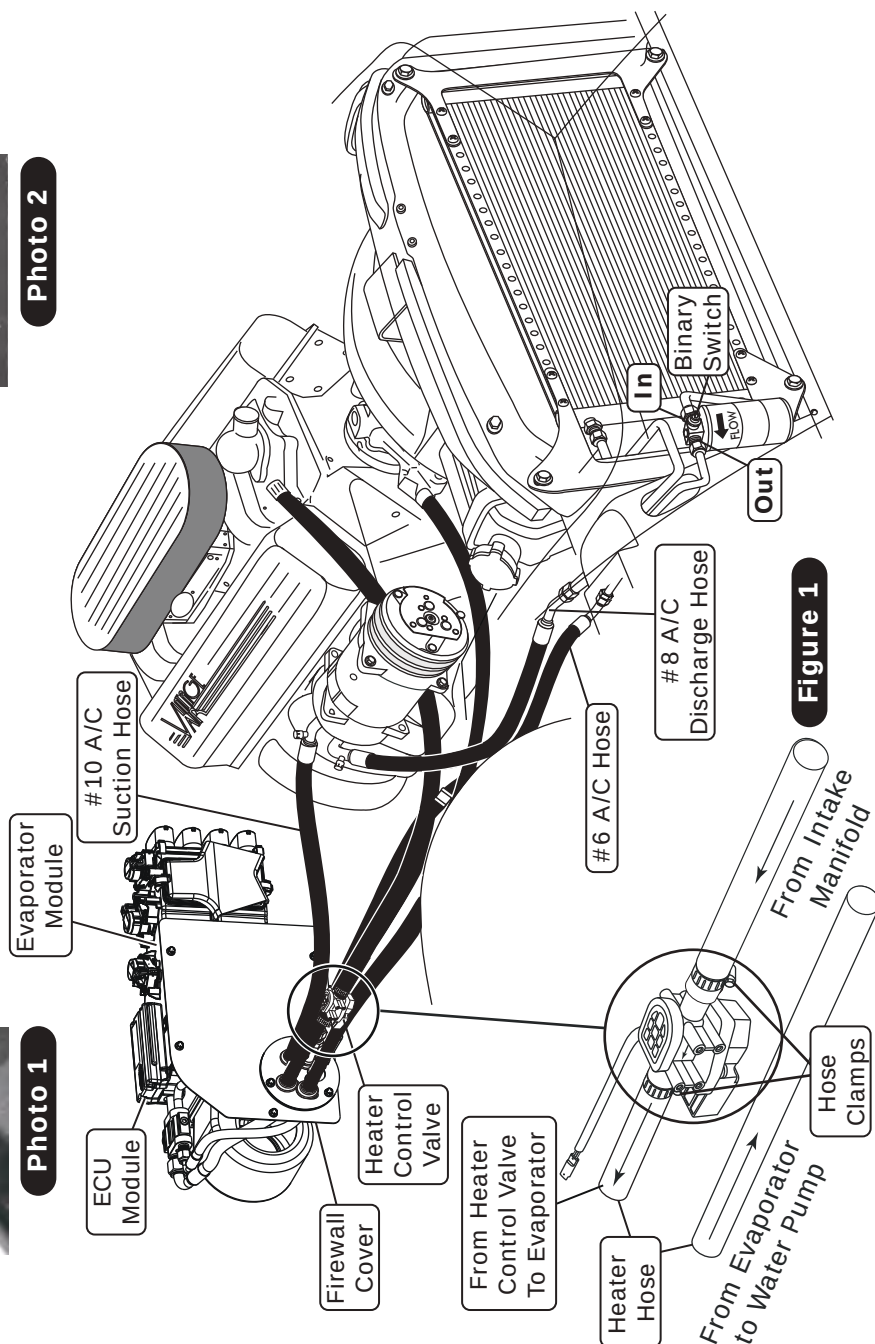

Figure 1
1. Route a piece of heater hose from the water pump to the bottom heater fitting of the heater core as shown in Figure 1, below. Secure using hose clamps. **NOTE: Rubber hoses must be inserted through rubber boot for proper seal.**
2. Route a piece of heater hose from the intake to the top heater fitting of the heater core as shown in Figure 1, below. **NOTE: Install the heater control valve (the flow direction follows the molded arrow on the valve) in line with the intake manifold (pressure side), heater hose, and secure using hose clamps as shown in Figure 1, below. Also note proper flow direction.**